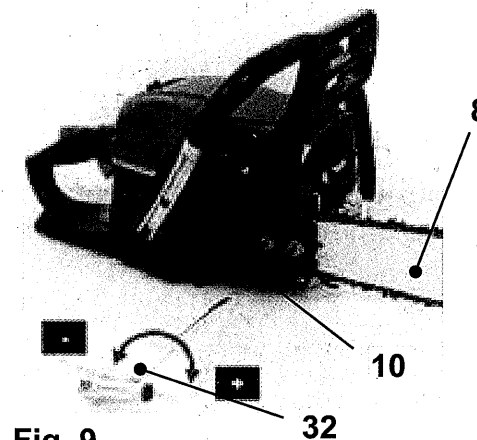

Fig. 9
2. Turn the tension screw (10) clockwise until the chain 'tie straps' are just touching the bottom edge of the guide bar (8) (Figs. 9, 10).